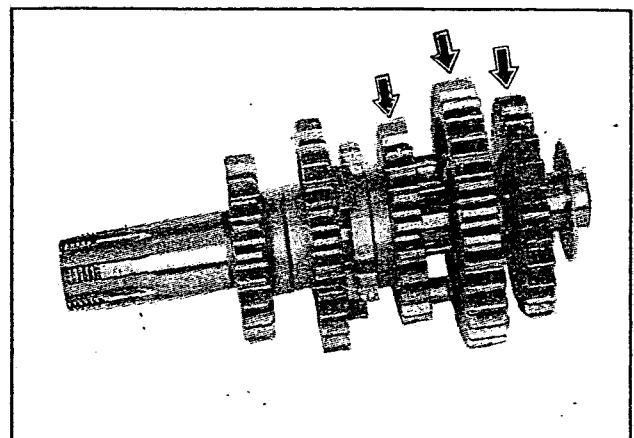

Fig 3.47
- Remove kickstarter idler gear, first driven gear and third driven gear (fig 3.47)